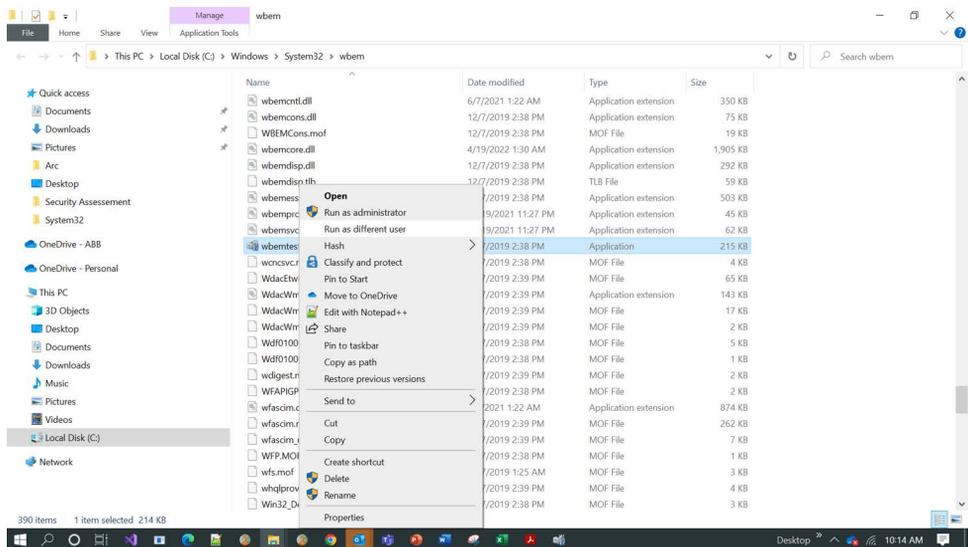

Figure 257. System32 Folder
1. In MCS-DC launch node, Go to the system32 folder and select wbemtest.exe application. Hold Shift and Right-click, which brings up the "Run as different user" as shown in Figure 257.